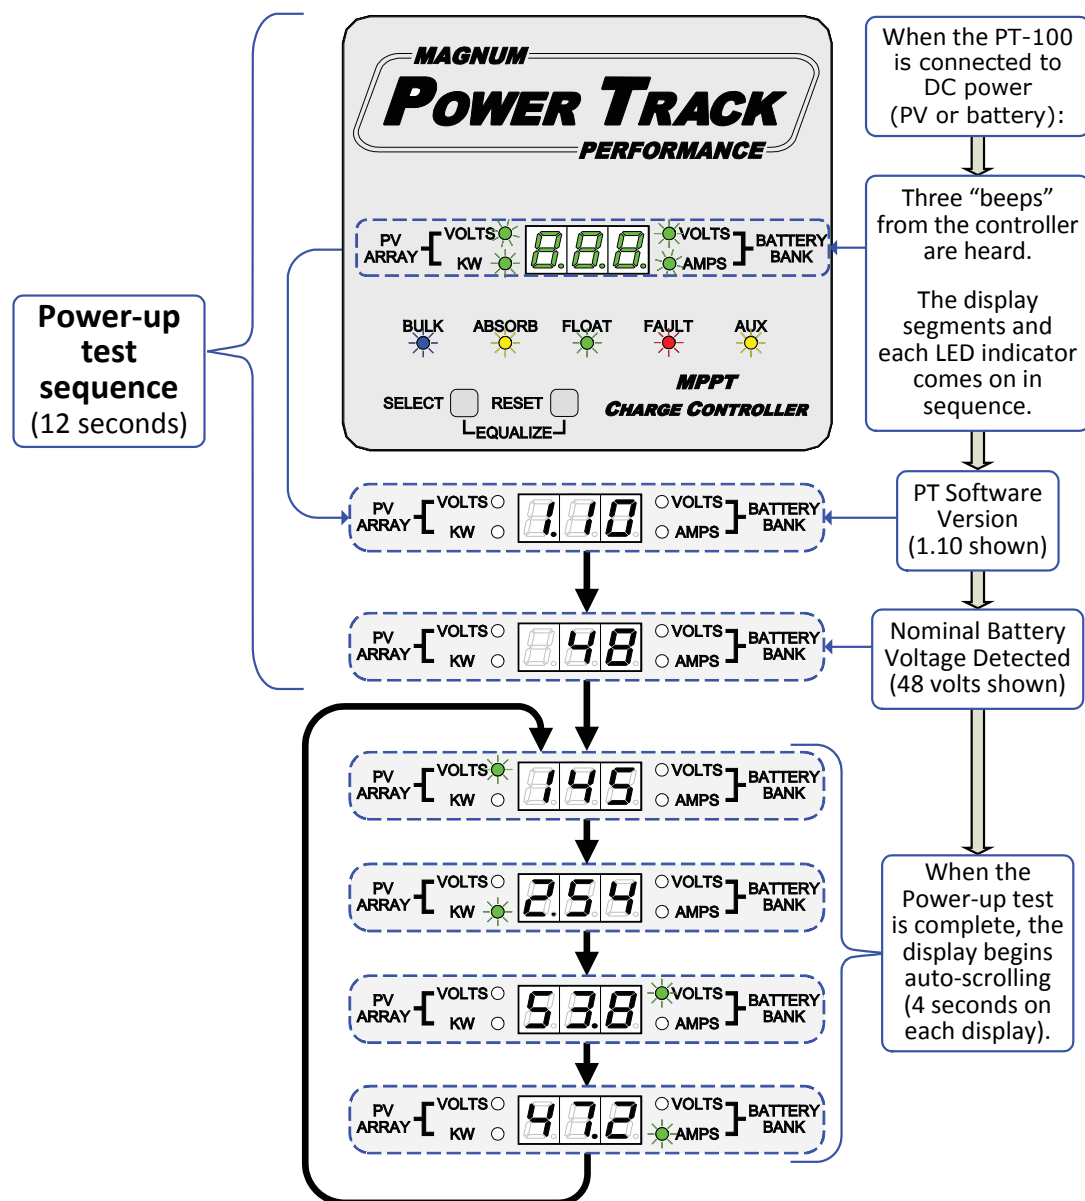

Figure 2-30, Power-up Test Displays
2. If the battery voltage is within the PT-100 input requirements and polarity is correct, apply battery power to the PT controller by closing the battery disconnect breaker, but DO NOT connect the PV array at this time. The PT controller will go thru a power-up test by turning on each segment of the display and all LED indicators, this is followed by the internal alarm beeping three times, displaying the software version and then the detected nominal battery voltage (see Figure 2-30). After the nominal battery voltage has displayed, the power-up test is finished; the display will begin auto-scrolling and the controller begins to operate.
When the controller is connected to DC power (either PV or battery), a diagnostic power-up test is performed (refer to Figure 2-30). This power-up test takes approximately 12 seconds to complete and verifies that all of the front panel LED's and the display come on and stay on until the test is complete. During this power-up test, the internal beeper is heard three times, each segment of the 3-character digital display turns on, and all nine LED indicators come on and stay on in sequence. Right before the power-up test ends, the display shows the controller's internal software version (e.g., 1.10) and then the nominal battery voltage that was detected (i.e., 12, 24 or 48 volts)¹.